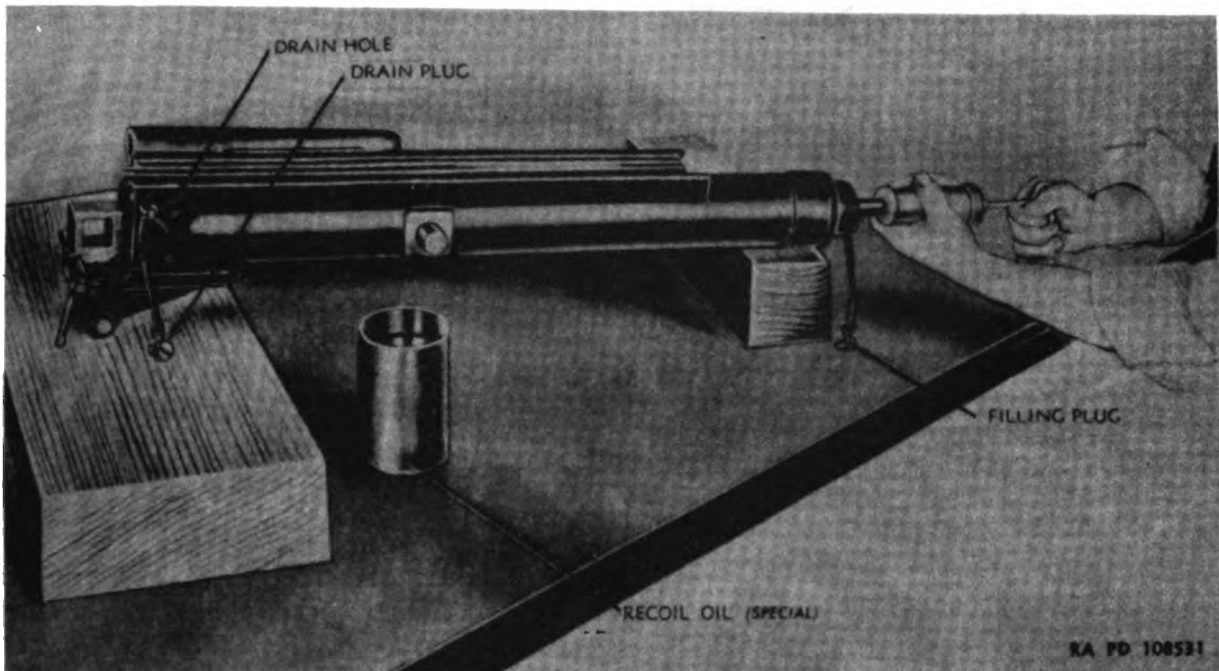

Figure 175. Filling the recoil mechanism.
- (1) Raise the rear end of the recoil mechanism of the 87-mm subcaliber gun higher than the front end by using the elevating mechanism of the 155-mm howitzer. When filling a recoil mechanism that has been removed from the 87-mm subcaliber gun, position it as shown in figure 175. Attach adapter to gun.
(2) Fill and purge the oil gun. To fill oil gun, unscrew the nozzle of the oil gun, insert the end of the gun in the fluid and pull the plunger back. Fill the gun with the recoil fluid and install the nozzle. To purge the gun, push the plunger up gently. This forces out the air.
- (3) Remove the filling plug in the front of the cradle (fig. 175).
- (4) Screw the oil gun into the adapter in the filling hole (fig. 175).
- (5) Remove the drain plug in the right side of the cradle (fig. 175).
- (6) Push the plunger of the oil gun in slowly, at the same time watching for the escape of fluid from the drain hole. When the fluid runs out free of air bubbles, the recoil mechanism is full.
- (7) Remove the oil gun. Before installing the filling and drain plugs, let about two teaspoonfuls of fluid escape; then screw the two plugs in tightly. Permitting a little fluid to escape gives some room for expansion, which is needed to accommodate the expansion of fluid during prolonged fire and avoid interference with the complete return of gun to battery.